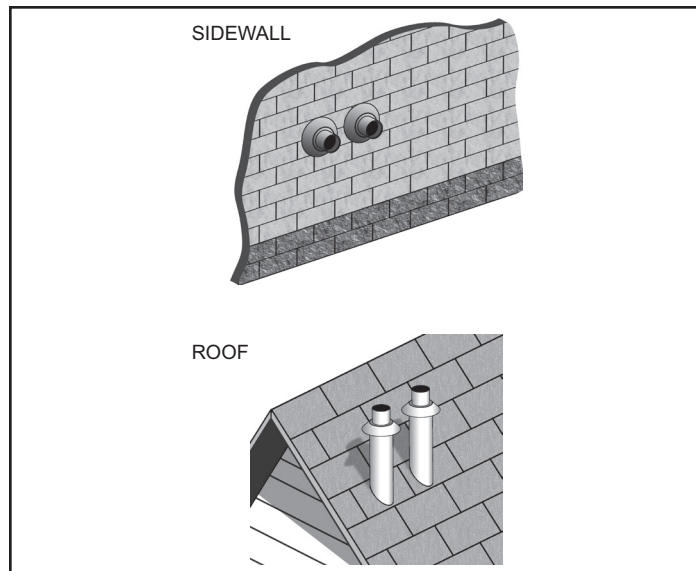

Figure 36. Two Concentric Terminations
1. The clearance between multiple termination caps must be zero inches (touching) to a maximum of two inches (5 cm), dimension **A** - **Figure 31**, when installing concentric terminations in close proximity. See **Figure 36** (page 32).
Two concentric terminations may be installed in close proximity as shown in *Figure 36* or with standard clearances when this arrangement is not possible. See *Figure 31* (page 31) for detailed information on clearances. See *Figure 32* (page 31) when installing three concentric terminations.